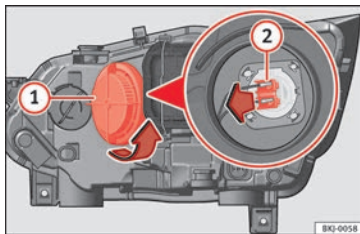

Fig. 109 In the engine compartment: main beam headlight bulb.
- Turn the cover **①** anti-clockwise and take it out »» **Fig. 109**.
- Remove the bulb connector **②** by pulling it outwards.